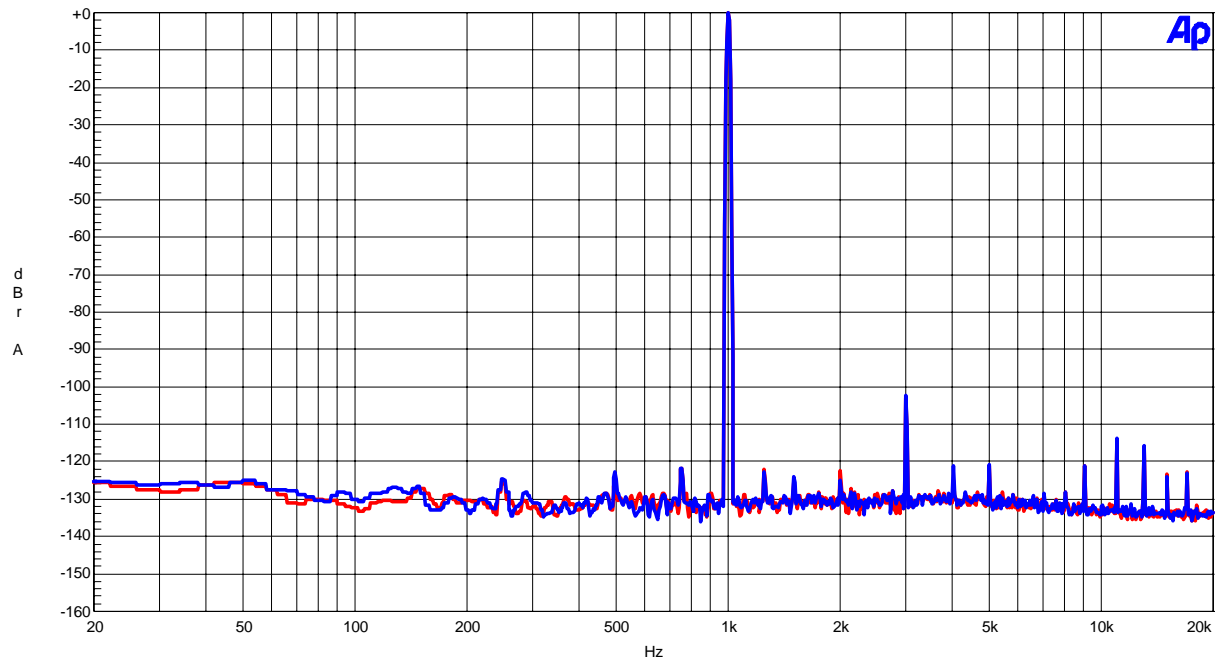

Figure 24. FFT(Input Frequency=1kHz, Input Level=0dBFS)
- Figure 24. FFT (Input Frequency =1kHz, Input Level =-60dBFS)